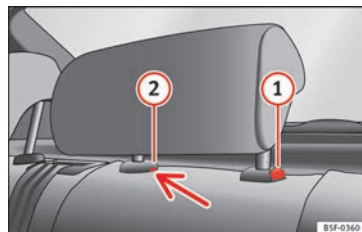

Fig. 150 Rear centre head restraint: release point.
- To set the head restraint lower down, press the  » **Fig. 150** button and move it downwards.
- Press button  » **Fig. 150**, while simultaneously pressing on the security hole  » **Fig. 150** with a flat screwdriver a maximum of 5 mm wide, and remove the head restraint.